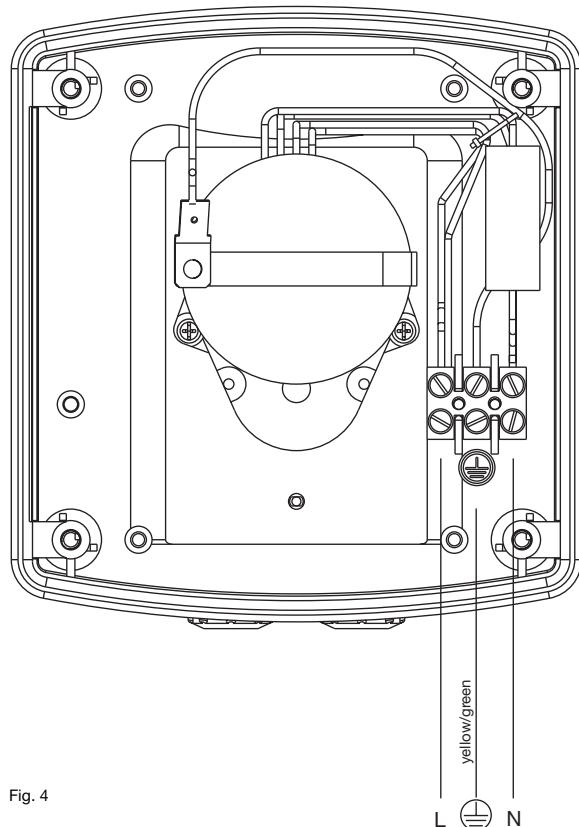

Fig. 4
- Attach the mains lead according to fig. 4 (earth lead required).